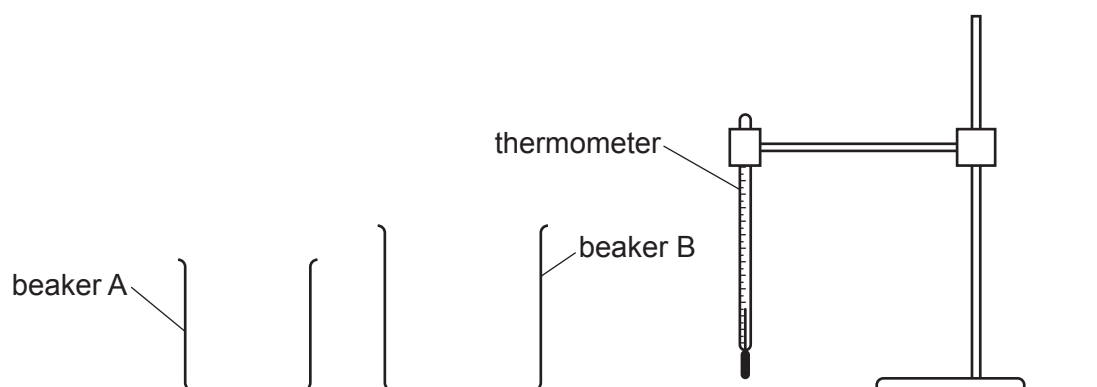

Fig. 1.1
2. The thermometer, clamp, boss and stand are to be set up for candidates as shown in Fig. 1.1. The thermometer bulb must be below the estimated 75 cm³ level of the larger beaker. Candidates must be able to easily and safely read temperatures up to 100 °C and to move the thermometer into and out of the beakers.
Check that the apparatus is intact and is arranged as in Fig. 1.1.